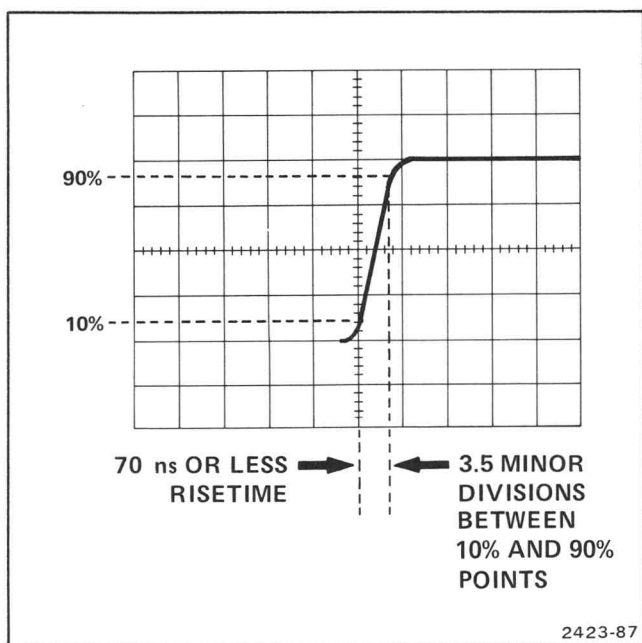

Fig. 4-3. Idealized display of rise time.
e. Pull X10 MAG knob to the out position. Display should be approximately as shown in Fig. 4-3.
f. CHECK—rise time should be 70 ns (3.5 minor divisions) or less. The rise time is the time between the 10% and 90% amplitude points on the positive-going transition, as Fig. 4-3 shows.